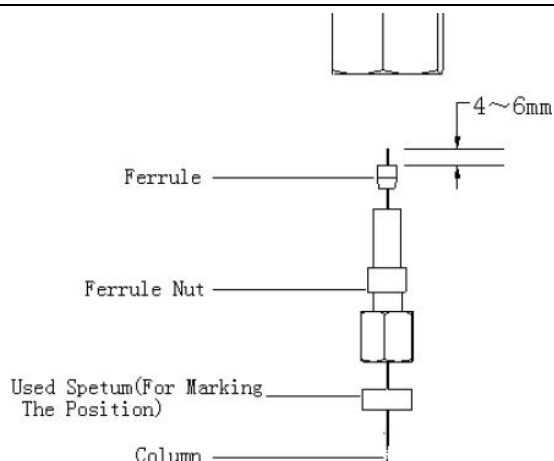

Figure 2-7 Column installation at the inlet end
1. Pass the position markers (such as old septum), pressure ring ferrule and the pressure ring through the free end of the column (as shown in Figure 2-7) in order. The tapered end of the ring must face the ferrule.